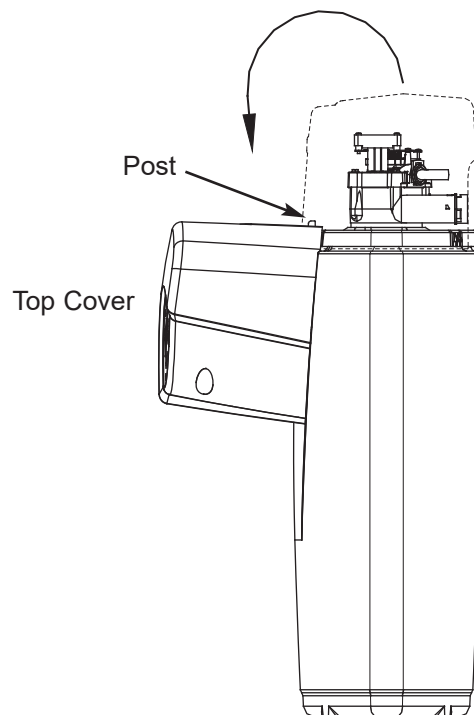

FIG. 9
3. Hang cover from post on front of rim, as shown in Figure 9. Avoid allowing the cover to hang from wires.